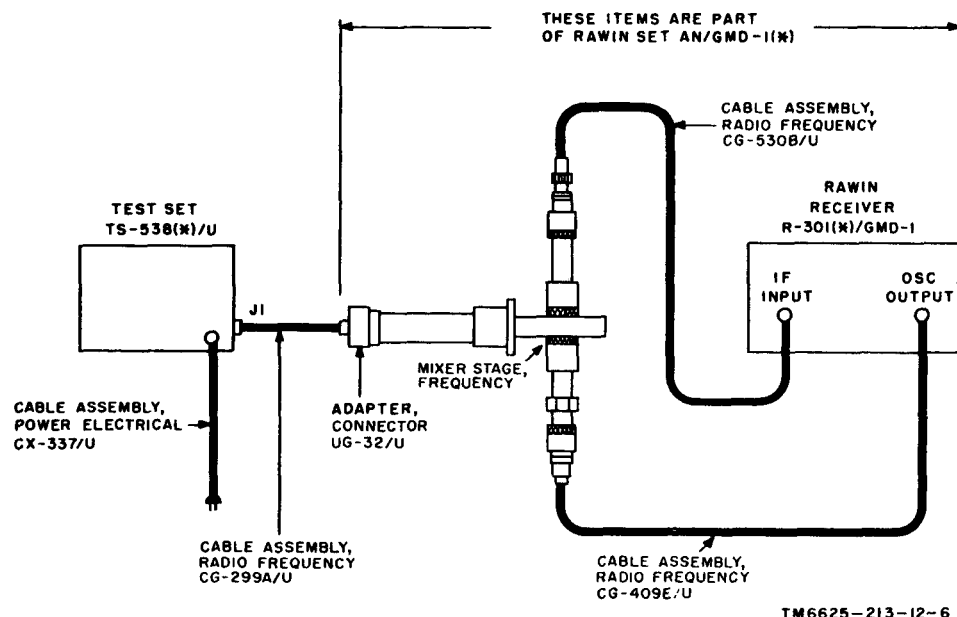

Figure 8. Checking sensitivity of Rawin Receiver R-301(\*)/GMD-1.
#### 15. Checking Rawin Set AN/GMD-1(\*) (fig. 8 and 9)
- (3) Insert the ac power cable in the test set panel receptacle and connect the other end to the ac power source. Set the POWER switch to the ON position.
- (4) Turn the R. F. POWER SET dial clockwise and adjust it until the power monitor meter reads at the SET POWER point.
- (5) Set the FREQUENCY METER dial to 1680.
- (6) Set the OSCILLATOR FREQUENCY dial for maximum dip on the meter. The oscillator is now set at 1,680 mc.
- (7) Rotate the FREQUENCY METER dial away from 1,680 mc until the
- (8) If the antenna is screwed into the socket of the test set, remove and return it to its place in the cover.
- (9) Place the MODULATION switch in the ON position.
- (10) Adjust the REPETITION RATE dial to set the modulation at the desired frequency.
- (11) Readjust the R. F. POWER SET dial until the power monitor meter is at the SET POWER point.
- (12) Disconnect the mixer assembly from the transmission line in the base of the pylon. Connect the mixer assembly adapter to the mixer assembly. Connect the rf cable from rf output jack J1 on the side of the test set to the mixer assembly adapter (fig. 8). Turn on the rawin receiver.
- (13) Rotate the OUTPUT POWER dial on the test set to 50. Tune the rawin receiver to the same frequency as that of the test set, by operating the TUNING switch on the rawin receiver so that maximum undistorted volume of the audible signal is heard at the monitor loudspeaker. The audible signal represents the modulation frequency of the test set.